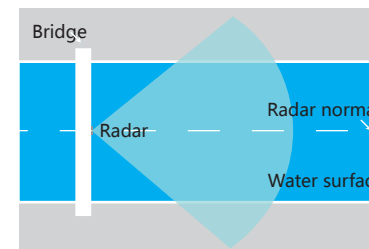

Fig.2-9
- ⑤ If the radar installation environment is for water object detection, radar install at bridge to monitoring ships on the surface of water, like figure 2-9.